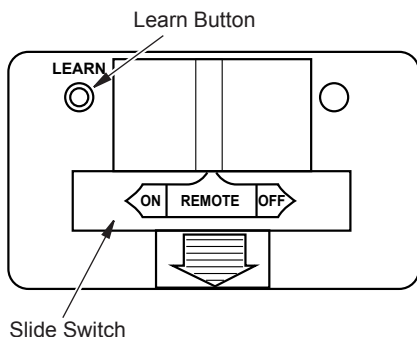

Figure 23 - Receiver
1. Place the slide switch on the receiver in the remote position (see Figure 23).